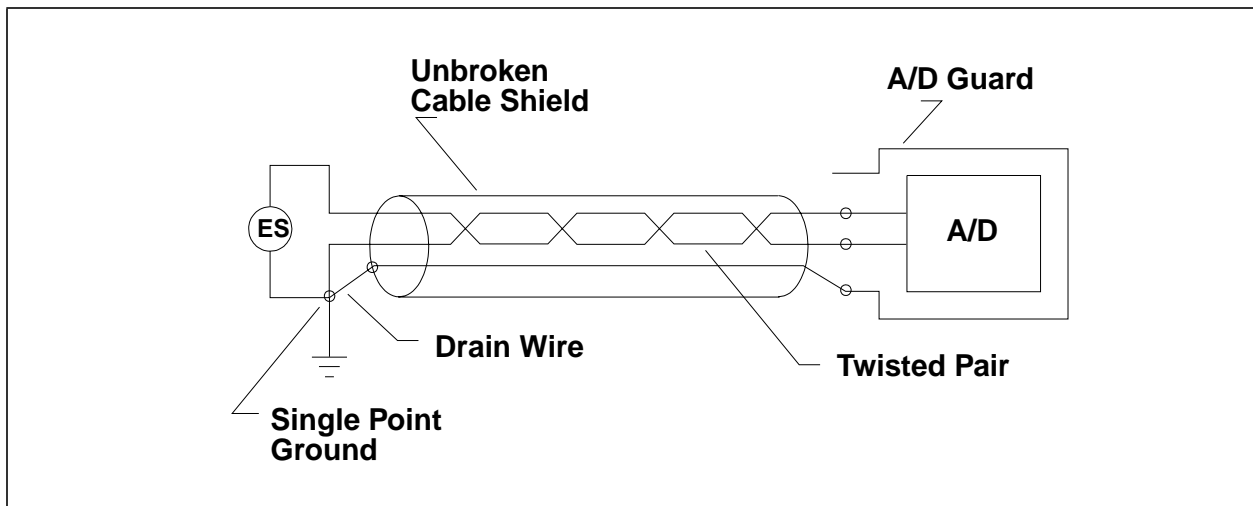

Figure 2-3. Ideal Analog Signal Field Connection
- Connect the low side of the signal to the shield at the signal source. If the shield cannot be conveniently grounded at or near the signal source, ground it at the Controller. An ideal analog signal field connection is shown in Figure 2-3.